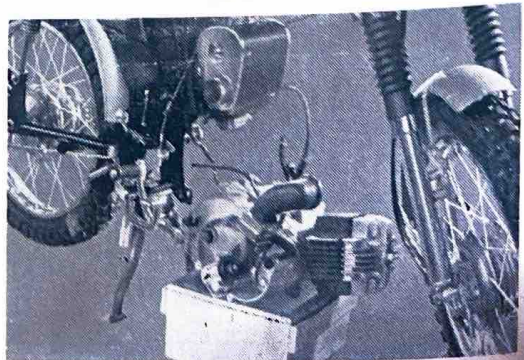

Fig. 3-1-19
18. Pull out the foot rest mounting bolt, and remove the engine from the chassis. (Fig. 3-1-19)